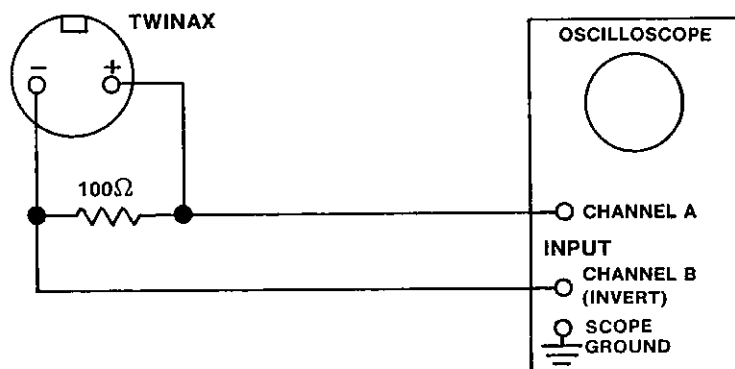

Figure 2.20. Oscilloscope Twinax Connector Test Setup
e. Use a 100 ohm, 5%,  $\frac{1}{2}$  W, resistor and a calibrated oscilloscope to differentially measure the zero-to-peak voltage on the first LORAN-C pulse of the transmitted pulse group. Ensure that the resistor is placed across the plus and minus pins of the twinax connector (refer to Figure 2.20).